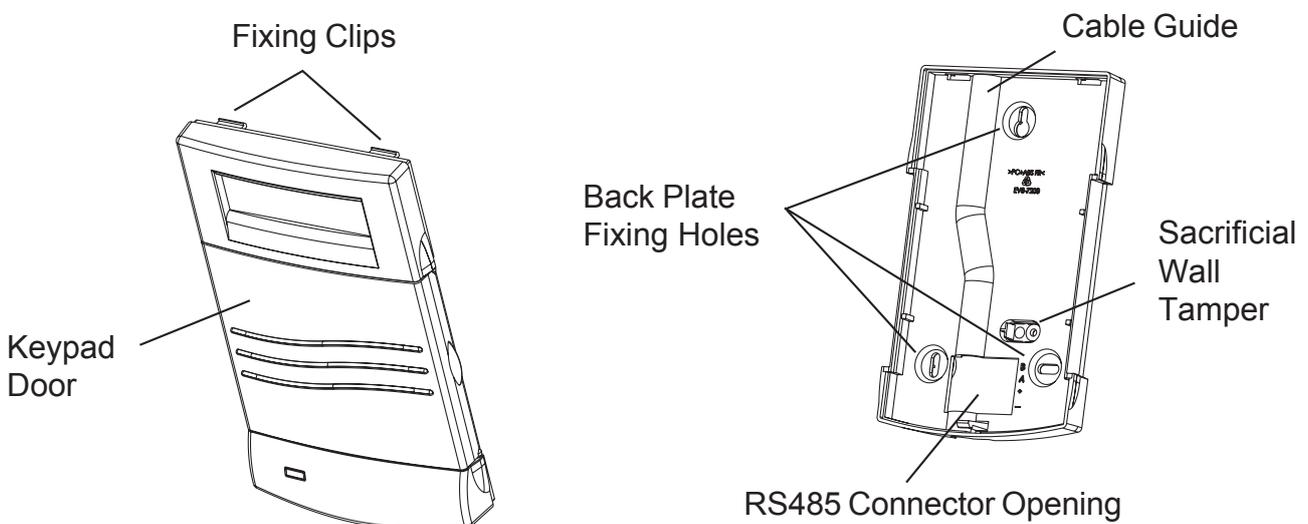

Figure 1 : Galaxy Mk7 Keypad Front and Back Plates
6. If an off the wall tamper is required, using a No. 6 Pan Head screw, secure the sacrificial wall tamper, indicated in figure 1, to the wall, ensuring that the tamper knockout indicated, is still connected to the back plate moulding.